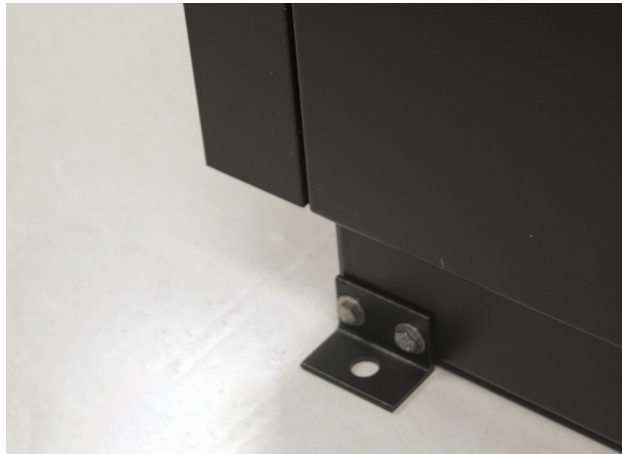

FIGURE 3-15 Floor mount
2. Obtain the four anchoring brackets as shown in FIGURE 3-15.